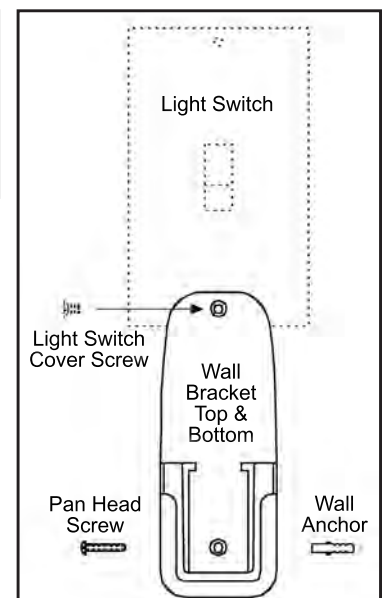

Figure 57: Wall Bracket Installation Option 3.
3. Mounted to wall and bottom of light switch cover with top and bottom of mount; refer to Figure 57.